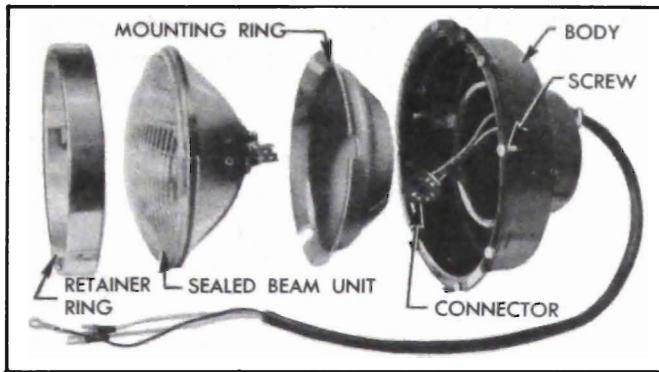

Figure 10-61—Headlamp Disassembled
The headlamp assembly on each front fender consists of a body, wiring, connector, mounting ring, sealed beam unit, retainer ring, door and gasket. See figure 10-61.
4. *On second type*, spring the retainer ring slightly where marked "TOP" to remove mounting ring and sealed beam unit. See figure 10-61.